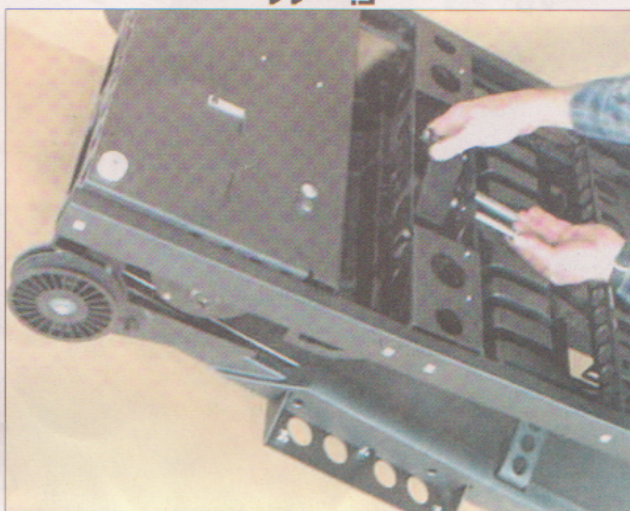

Fig. 11
- 26(b). For **single rear roller treadles** carefully set unit up on its right side. This will have the pulley side up and expose underneath side of unit (Fig. 11). Using the 3/8" x 3 3/4" shoulder bolt and 5/16" nylock nut attach the teeter assembly to base frame (Fig 11A) Tighten using the 3/16" hex key and 9/16" open end wrench (Fig. 11B).